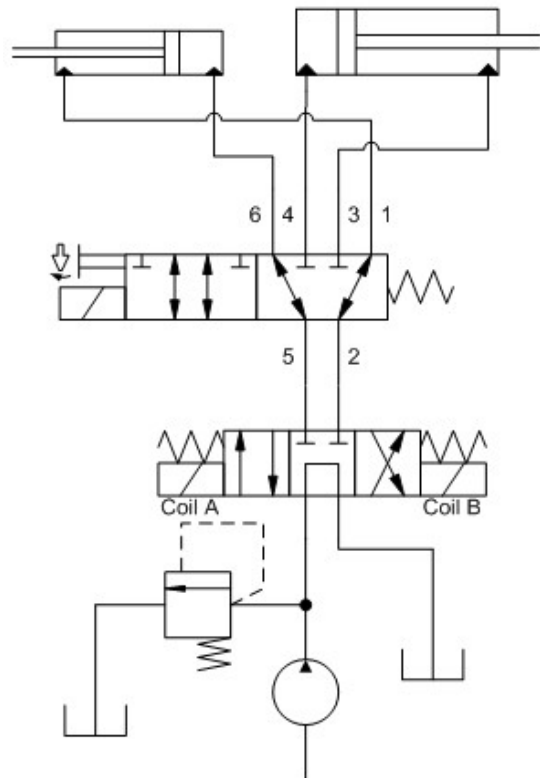

Figure 12.
- This cartridge can be used to swap the work ports between two actuators. (See Figure 12.)